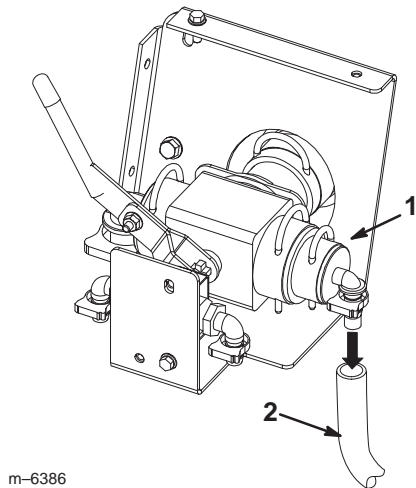

Figure 18
19. Connect a 1/2 inch hose to the open fitting on the control valve assembly (Fig. 18).